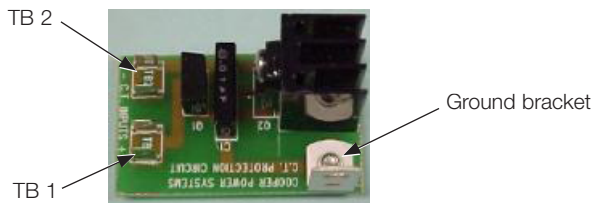

Figure 6.
12. Connect green lead push-on connector (Item 5) to CT protector (Item 4) at TB1. Connect red lead push-on connector (Item 6) on to CT Protector (Item 4) at TB2. Refer to Figure 6.